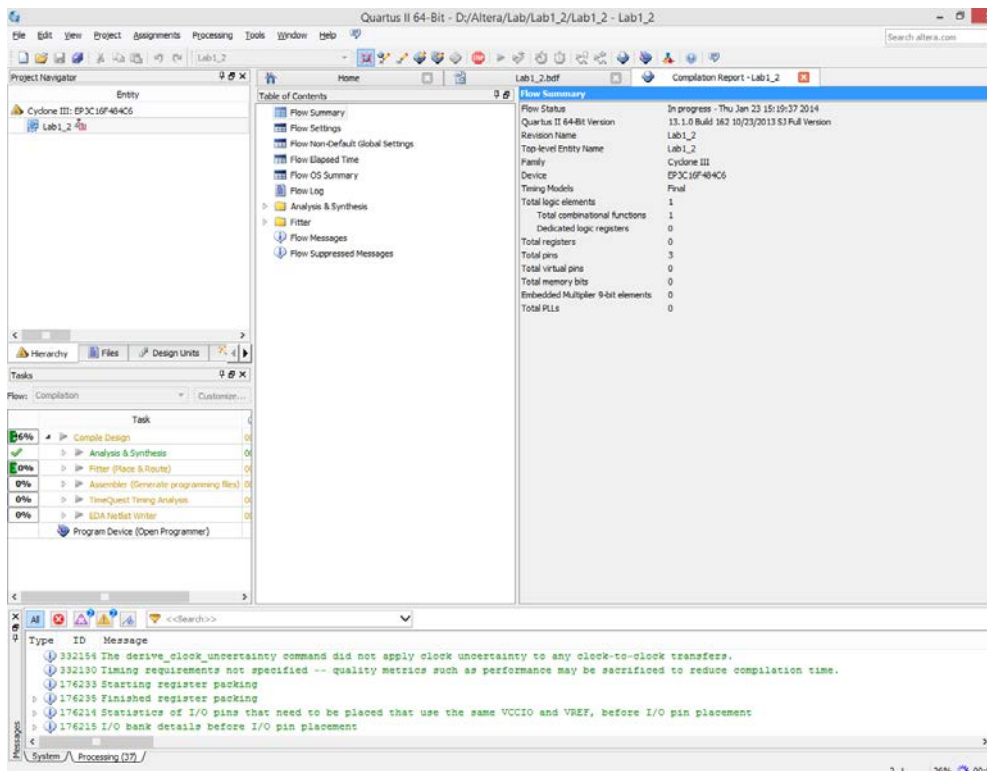

Fig 11. The Compiling Screen.
2. If Hardware setup not chose the USB-Blaster Click Hardware Setup and Chose it that like Fig 11.